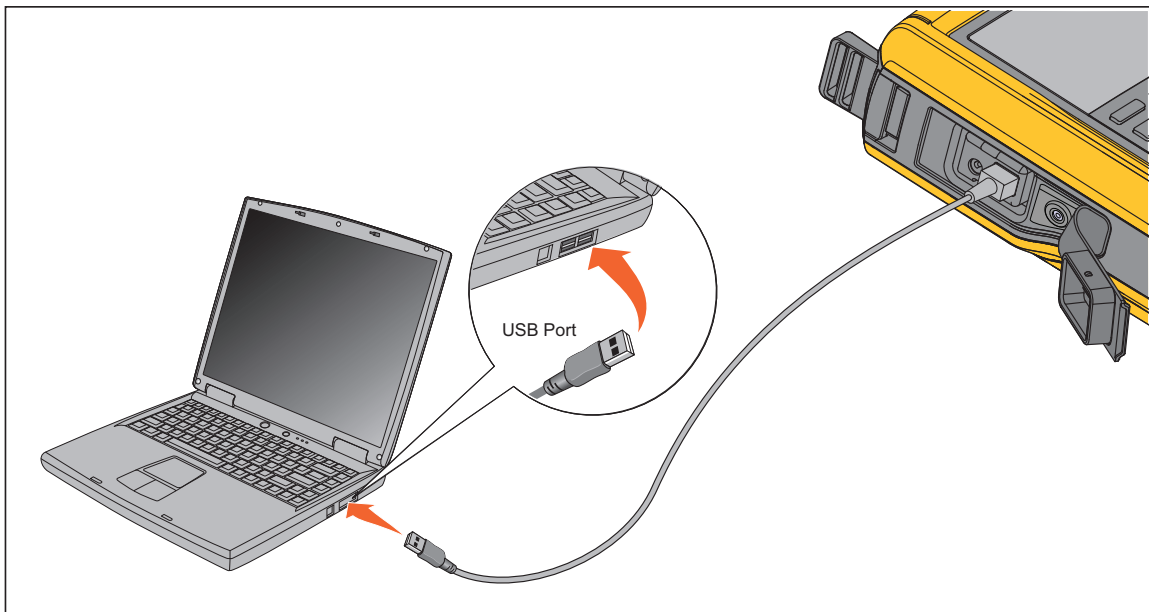

Figure 8. Connect the USB Cable
2. Connect the USB cable (provided) to a PC (see Figure 8).